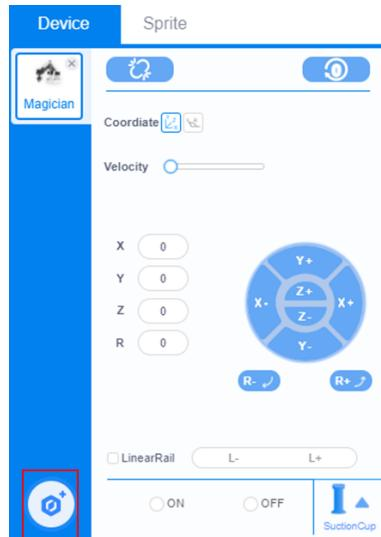

Figure 4.14 Control area
- Step 2** Click , as shown in Figure 4.14. Select **Magician Go** or **Magician Go +**